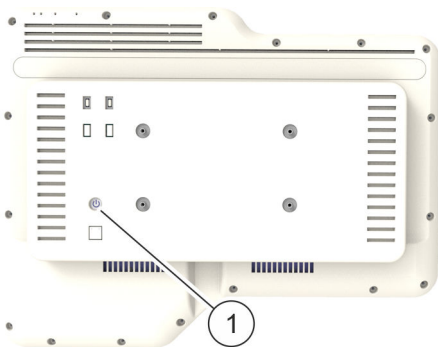

Fig. 5: On/off switch on the terminal
1. ➤ Press the on/off switch (Fig. 5/1) to switch the terminal on.
3. ➤ Press the on/off switch (Fig. 5/1) to switch the terminal off.